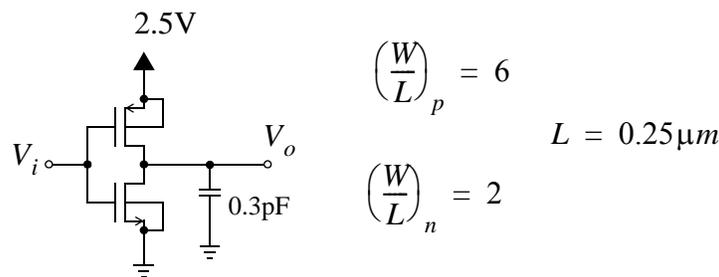

Figure 1: CMOS Inverter
- P1) For the unit-sized inverter shown in figure 1, find analytically the approximate rise and fall times (10% to 90%) assuming the inverter drives a  $0.3\text{pF}$  load capacitor.
- L1) Simulate the inverter of figure 1 using a 0.3pF load capacitance. Find the rise and fall times, and compare your simulation results with the analytic results.